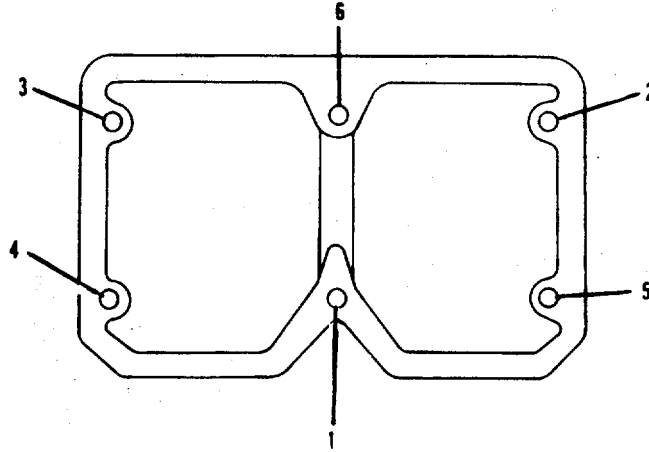

FIGURE 2-33. Rocker Lever Housing Torque Sequence.
- (8) Tighten the rocker lever housing and lifting bracket capscrews to 60 ft-lb torque. Use the sequence shown in FIGURE 2-33 when tightening the housing capscrews.